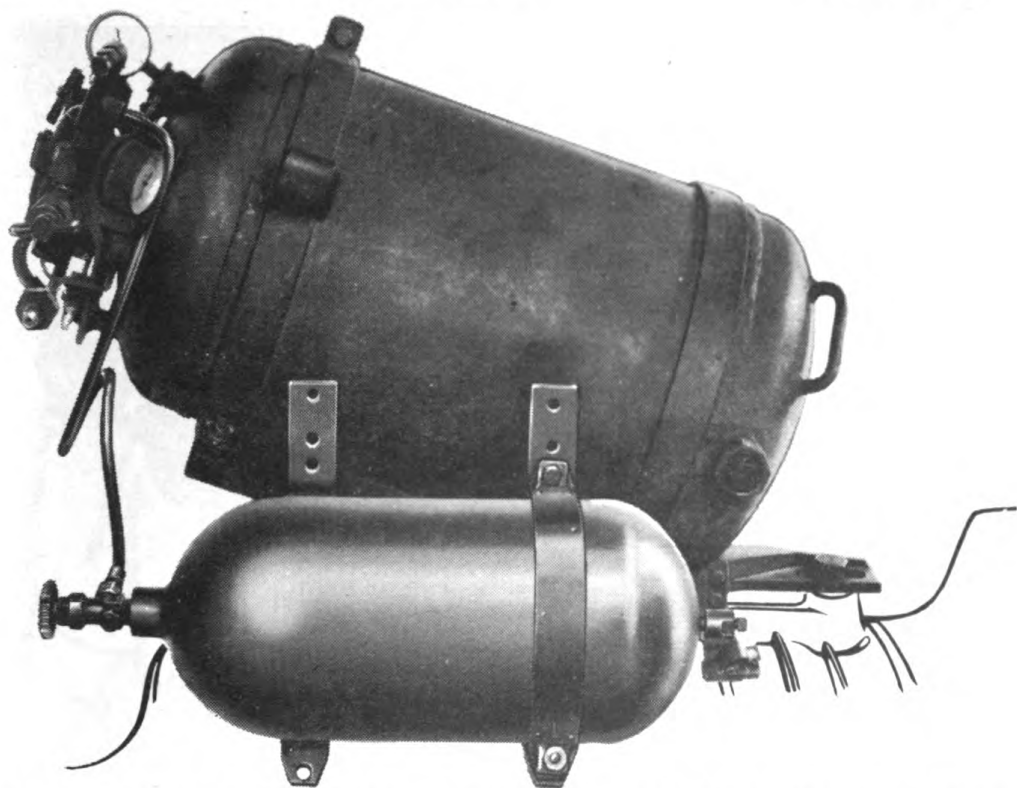

Fig. 35. Pressure container, right front pressure container strap, and loop installed on transmission fuel group.
f. Pressure container. (1) Place pressure container on back pressure container straps and hold container in place by inserting bolt through right front pressure container strap. Remove thread protector cap from pressure container valve. Aline outlet of pressure container valve with connection on end of loop. Connect loop to pressure container valve (fig. 35). Install left front pressure container strap. Tighten both ends of each strap evenly so gaps between "ears" at ends of each front and each back strap are equal; otherwise, there will be insufficient space on the top strap to insert gun rack.
(2) Tighten nut on end of loop adjacent to pressure container. Tighten union nut at pressure cut-off valve.